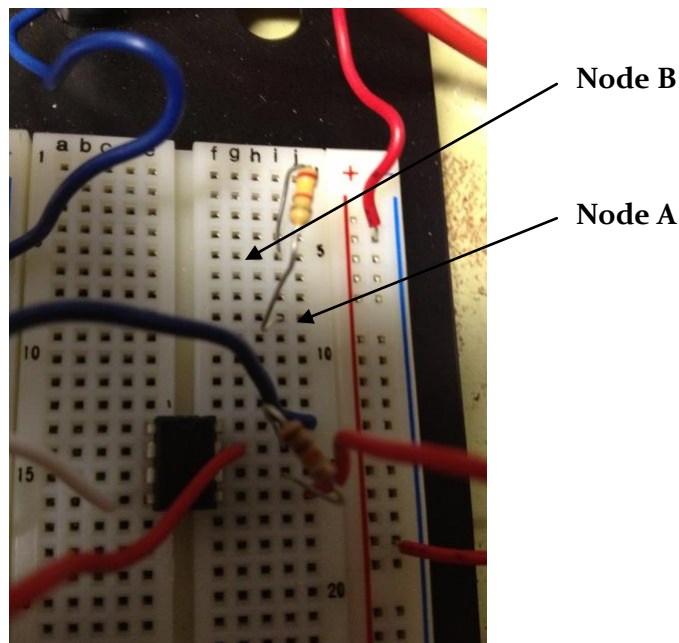

Figure 9: Resistors properly installed, note Node A and Node B
- Examine Figure 9 to ensure you correctly configured your resistors